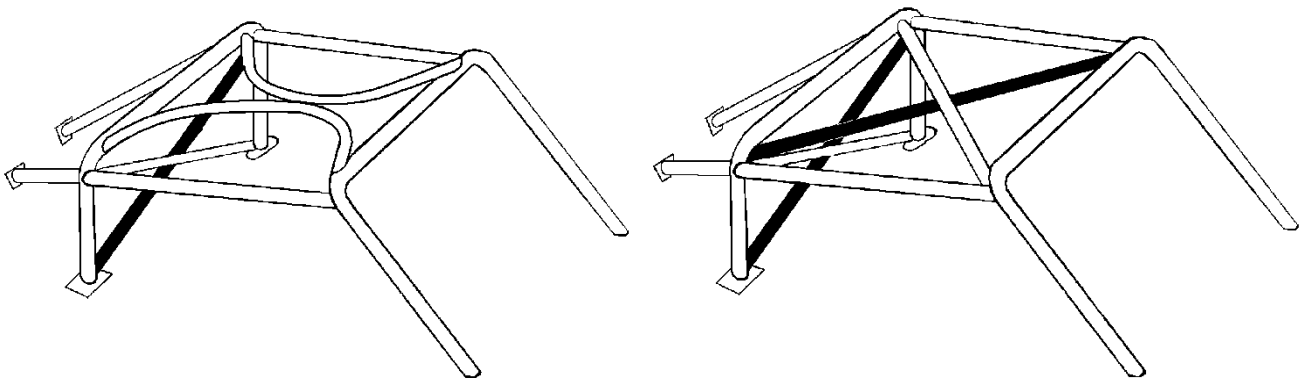

Figure 1
- 1.2.5. Optional reinforcing members may be fitted (shaded items in fig. 1) but none may extend forward of the front roll hoop although an additional diagonal brace within the top of the roll cage is recommended.
All Lotus 7 type cars must be equipped with externally mounted side impact protection bars consisting of a structure mounted on the outside and, at minimum, to the driver's side of the vehicle and generally configured in accordance with Figure 1. Although option 2 is the preferred and recommended configuration, the utilization of one, or a combination of, options 1, 2 or 3 is permitted. This requirement is in addition to any existing internally fitted side impact protection.